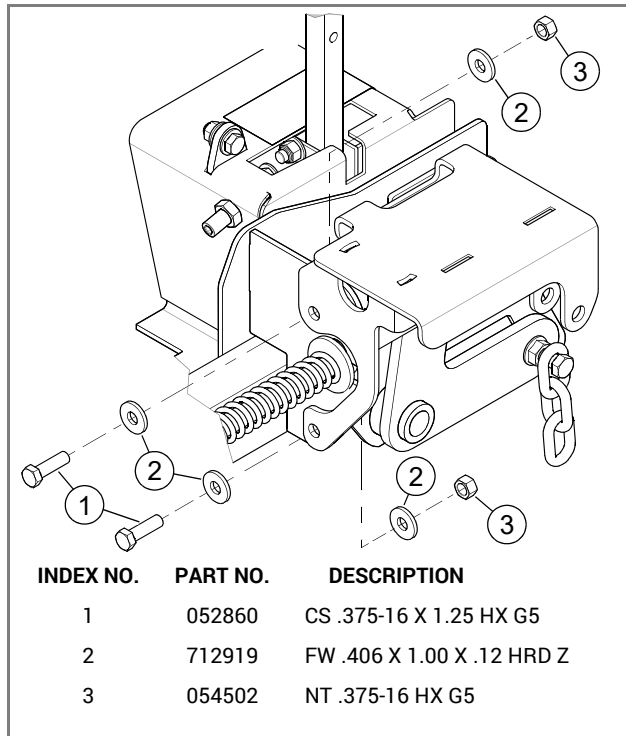

FIG. 9
15. Using the two holes in the bracket, attach the actuator mount assembly to the mower using the hardware provided with the actuator mount assembly. FIG. 9